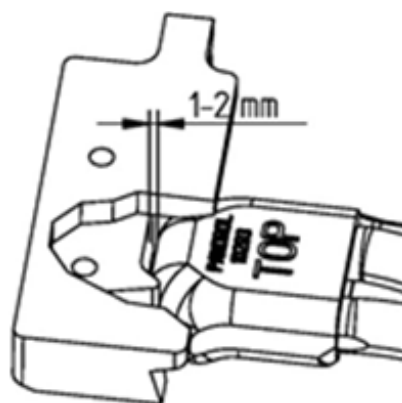

Fig 52.
5. Make sure there is a space of 1-2 mm between the clips and the claw when positioning the de-clipping pads for an optimal function ("Fig 52.").
6. Press and hold the run button (2) to drive the declipping tool motion.
7. Simultaneously press hold the activation button (3) and the run button (2) to return the arms to their original position.